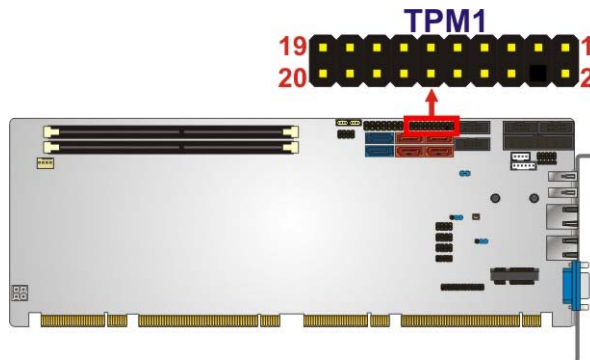

Figure 3-21: TPM Connector Location
- CN Location:** See **Figure 3-21**